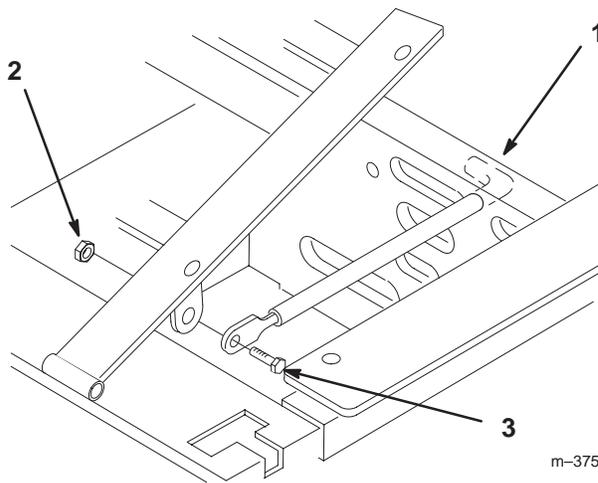

Figure 2
1. Tilt seat up. Remove 5/16" (8mm) locknut from bolt attaching seat retaining rod to seat frame (Fig. 2).
2. Remove retaining rod from seat and insert the "L" shaped end of the rod into the hole directly above the left-side hydraulic pump mounting hardware (Fig. 2).
3. Place the seat retaining rod to the outside of the mounting tab of the seat frame and secure with 5/16-18 x 1" (26 mm) bolt and 5/16" (8mm) locknut (Fig. 2).